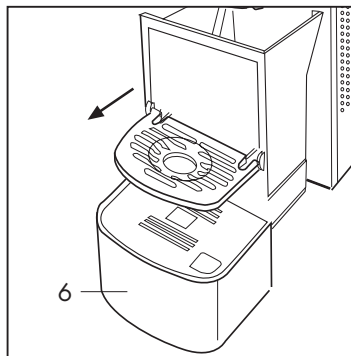

Fig. 24
The capsule container can hold at the most 14 capsules, so it should be emptied regularly to avoid the capsules getting stuck. To do this you have to remove the beaker (13) and extract the capsule container (6) (**Fig. 24**)